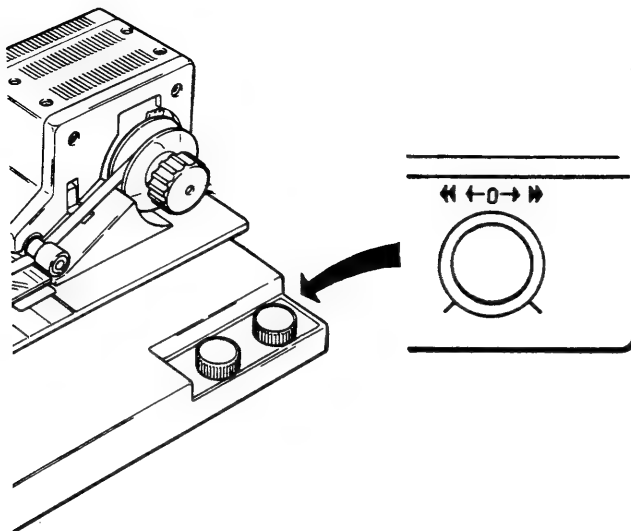

Figure 2-2F
9. Turn the Film Speed Control to "0" degrees (Figure 2-2F).